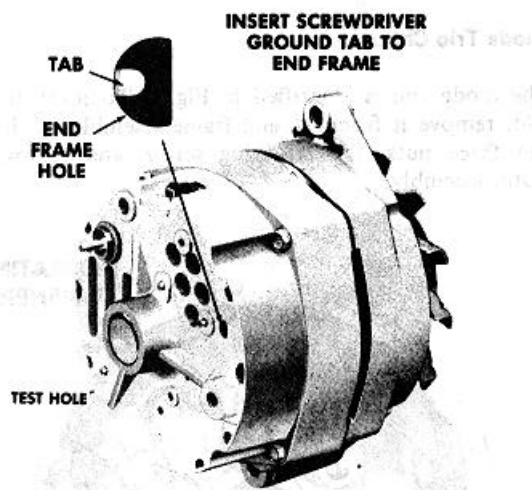

Fig. 7 - End Frame Test Hole.
- g. If ampere output is not within 10 amperes of rated output, determine if test hole (Fig. 7) is accessible. If accessible go to Step h. If not accessible go to Step 1.
- h. Ground the field winding by inserting a screwdriver into the test hole (Fig. 7).